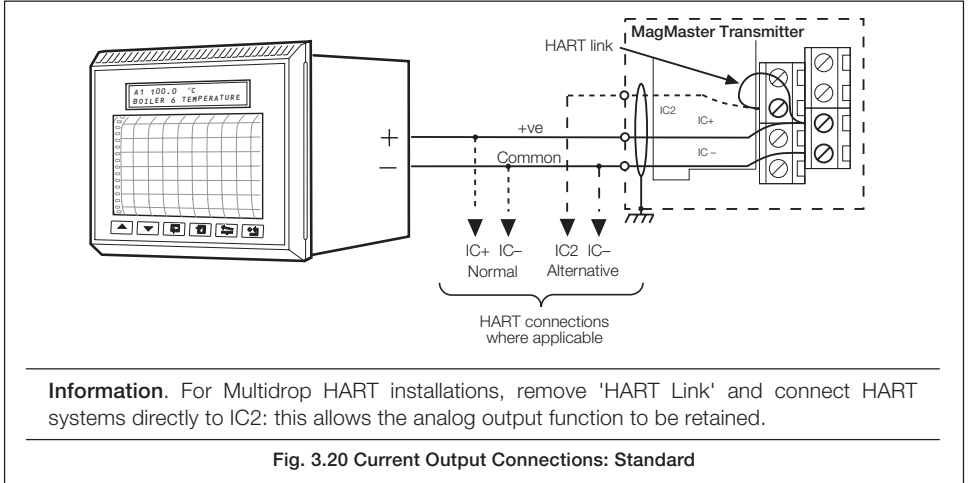

Fig. 3.20 Current Output Connections: Standard
3.4.5 Current Output – Fig. 3.20 and 3.21